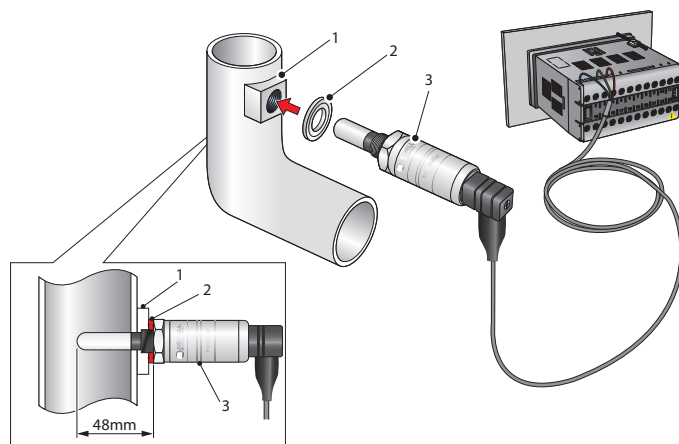

Figure 3.13 Transmitter mounting - pipe or duct
The transmitter may be directly mounted into a pipe or duct as shown in *Figure 3.13*.
The pipe or duct will require a 5/8" -18 UNF thread to match the transmitter body thread. Fixing dimensions are shown in *Figure 3.13*. For circular pipework, to ensure the integrity of a gas tight seal, a mounting flange will be required on the pipework in order to provide a flat surface to seal against.
1. Ensure that the blue protective cover has been removed from the tip of the transmitter (3) (*Figure 3.13*).